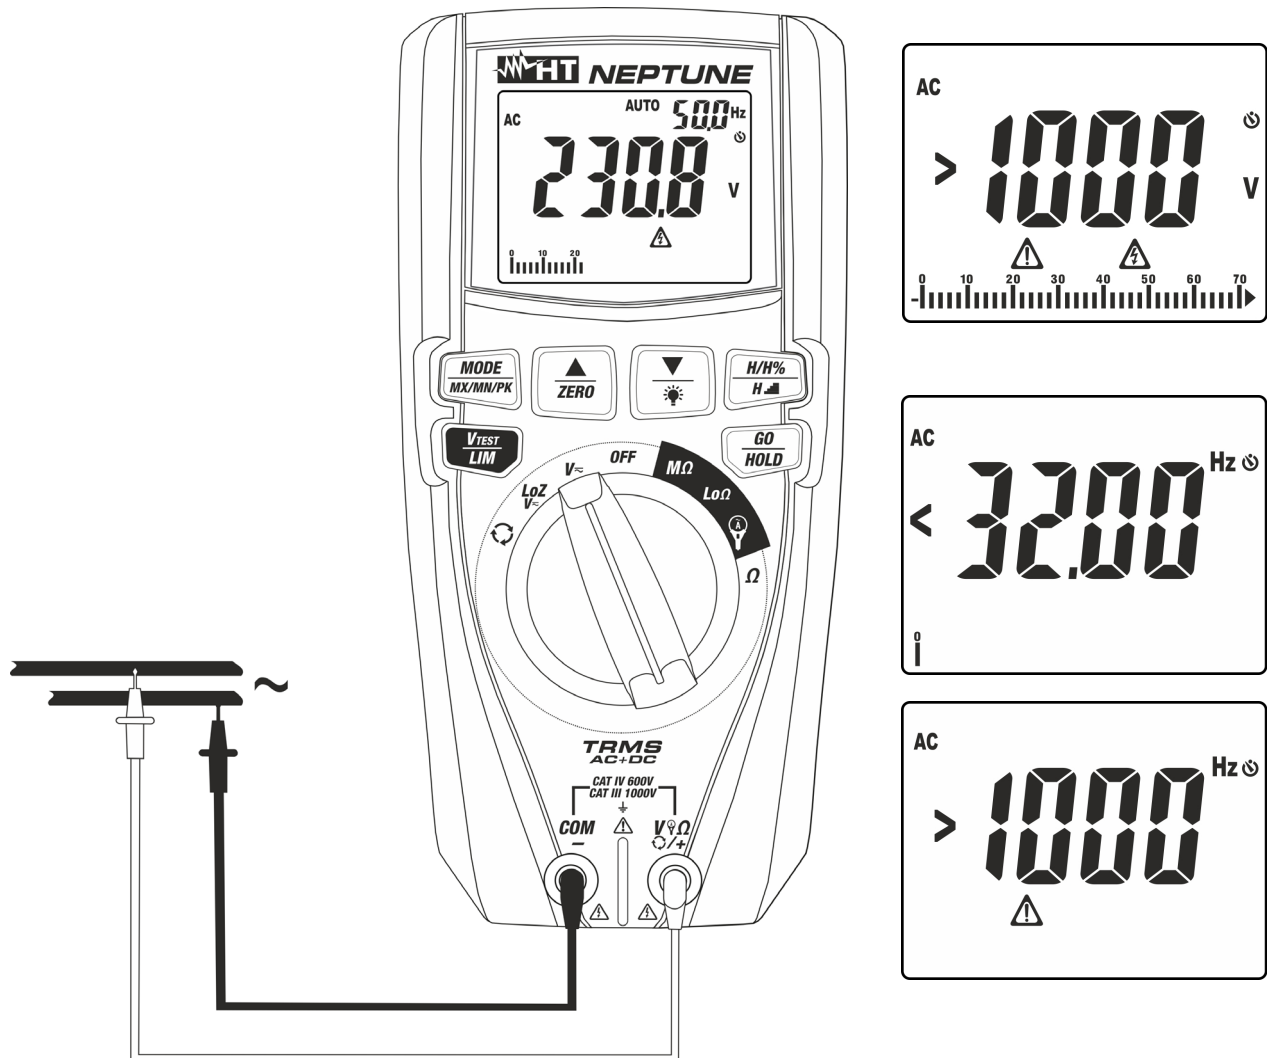

Fig. 7: Use of the instrument for AC voltage measurement
4. Position the red lead and the black lead respectively in the spots of the circuit to be measured (see Fig. 7). The display shows the value of voltage. On the top of the display on the right side, the value of voltage frequency is displayed. Press key **MODE/MX/MN/PK** to display the value of frequency with a higher resolution.
5. If the display shows the message ">1000V" (see Fig. 7), the maximum measurable value has been reached.
6. If the display shows the messages "<32Hz" or ">1000Hz" (see Fig. 7), the value of frequency is out of the measuring range 32Hz ÷ 1000Hz.